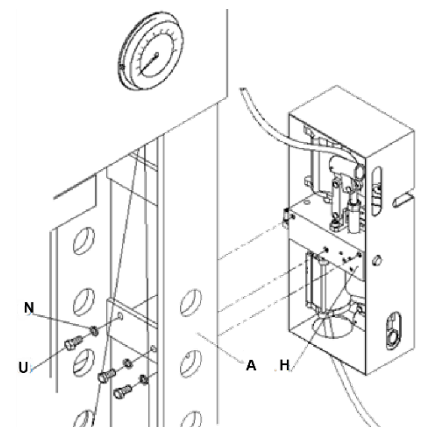

Fig.3
11.2.1 Fix the pump assembly. (H) to the body frame by using hex bolt M12 X 25 (U) and spring washer M12 (N). (refer to fig.3)